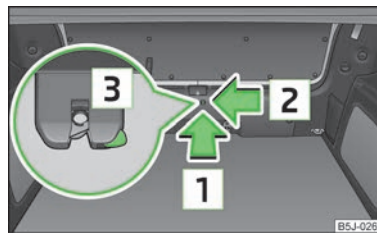

Fig. 18
- Insert a screwdriver or similar tool into the opening in the trim in the direction of the arrow **1** » Fig. 18 as far as the stop.